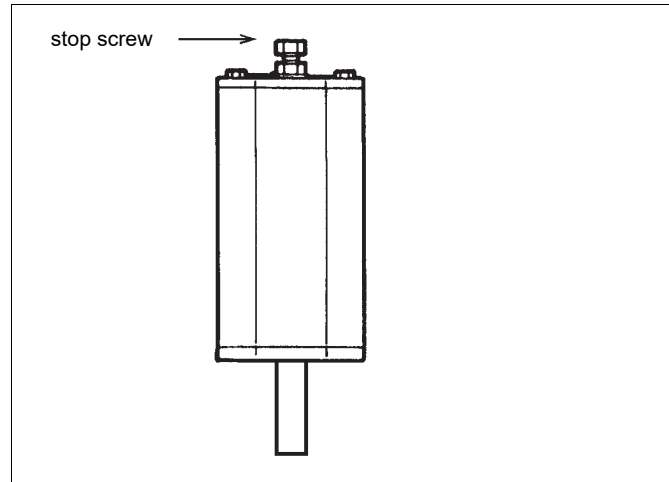

Fig. 4 The stop screw in the cylinder end
There is an adjustable stop screws (26) in the cylinder unit, see Figure 4. This screw in the cylinder end (44) limits the stroke length of the piston. Use thread locking compound, for example Loctite225, for sealing the stop screw.